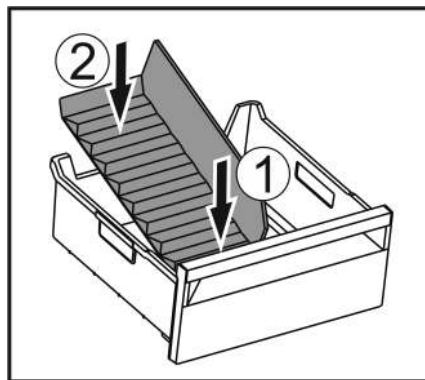

Fig. 121
- Insert the front part of the ice compartment divider. Fig. 121 (1)
- Lower the rear part of the ice compartment divider to the drawer bottom. Fig. 121 (2)